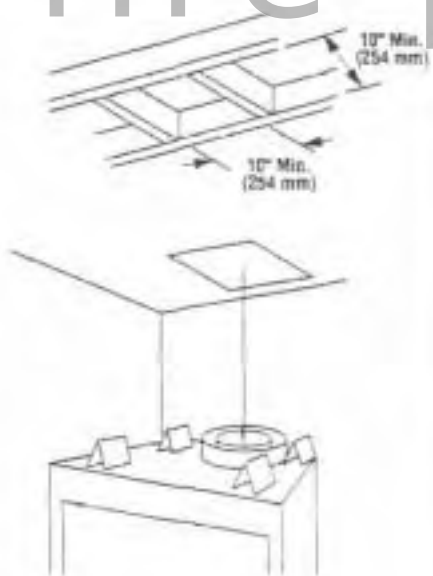

Figure 17
A. Use a plumb line from the ceiling above the appliance to locate center of the vertical run. Cut and/or figure a 10" x 10" inside (254 mm x 254 mm) minimum opening about this center mark (Figure 17).
C. If the vertical route is to penetrate a ceiling, use plumb line to locate the center above the appliance. Cut and/or frame a 12" x 12" (305 mm x 305 mm) inside opening about the center (refer to Figure 17).